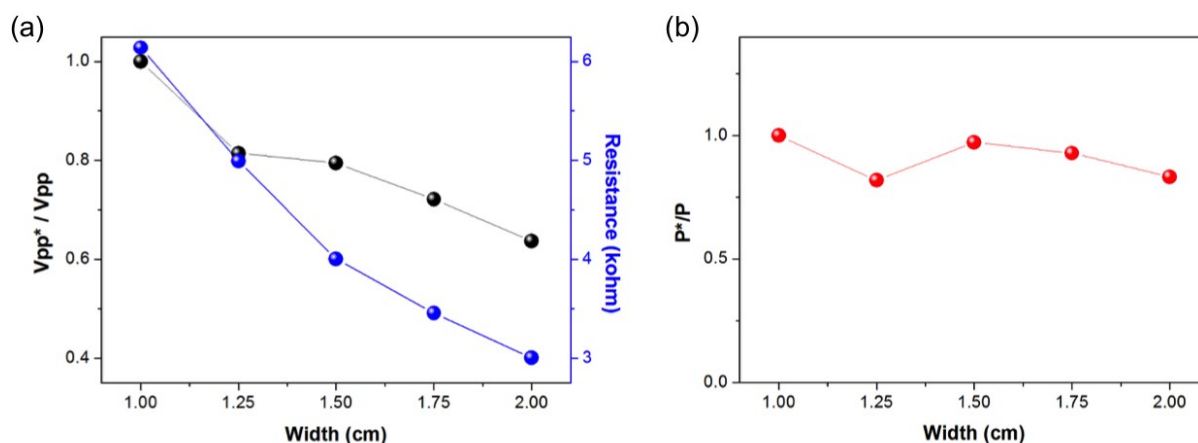

Figure S1. Effect of CNT sheet width on (a) output voltage ratio, resistance, and (b) output power ratio.
The effect of the CNT sheet width on generating voltage is investigated as shown in Figure S1. When the sheet width is increased, the output voltage ratio (V_{pp}^*/V_{pp}), which is an output voltage (V_{pp}^*) relative to the voltage for a 1.0 cm wide sheet (V_{pp}), decreases as shown in Figure S1(a). At the same time, the resistance of the CNT sheet decreases as the sheet width increases. The output power is linearly proportional to the voltage squared and inversely proportional to the resistance. Therefore, the output power ratio (P^*/P), which is an output power (P^*) relative to the power for a 1.0 cm wide sheet (P), remains constant regardless of the sheet width.